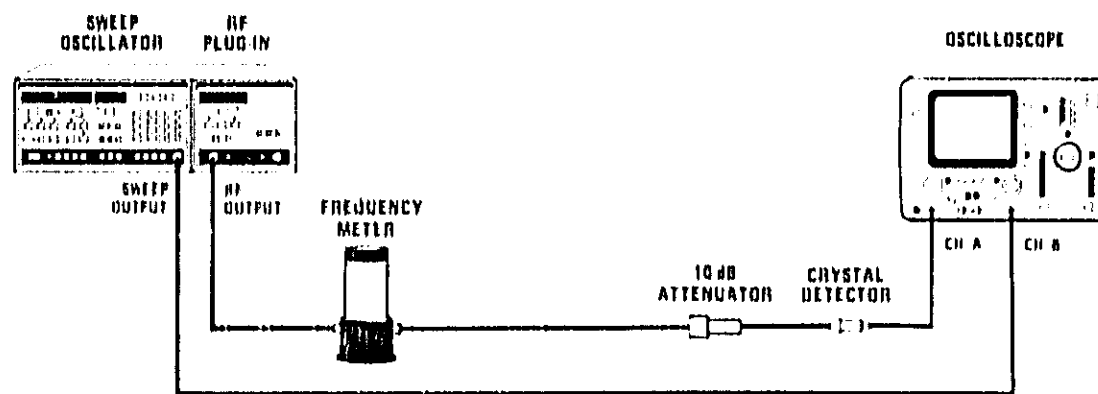

Figure 5-25. Band Overlap Adjustment Test Setup
1. Connect the equipment as shown in Figure 5-25 with the 537A Frequency Meter in the test setup. Allow the equipment to warm up for 1 hour.